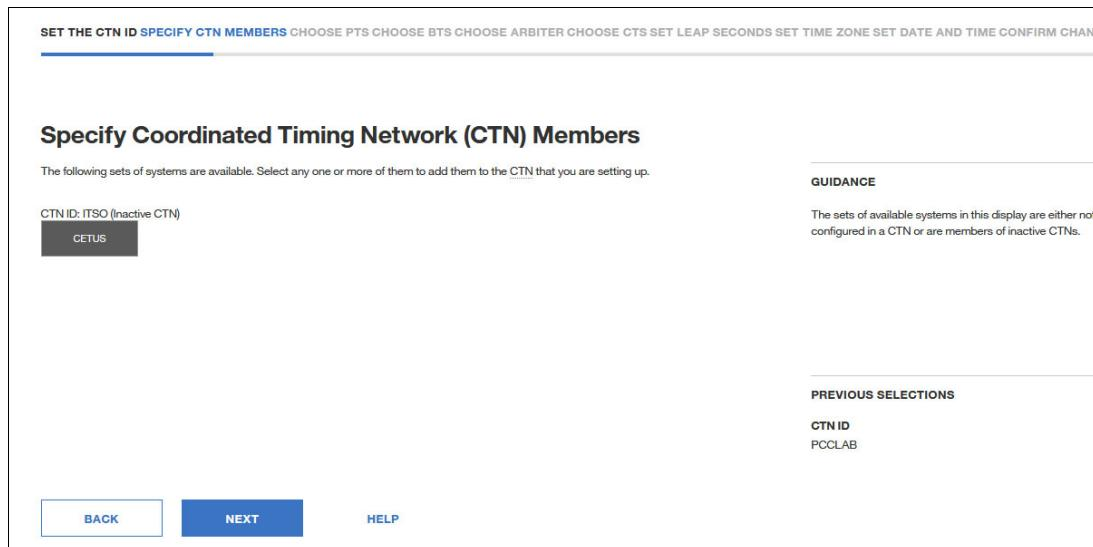

Figure 8-35 Specify Coordinated Timing Network (CTN) members
- The **Specify Coordinated Timing Network (CTN) members** window opens. Select the CPC name (only CPCs not belonging to a CTN are shown). In this example, only one CPC (CETUS) is displayed. Select the CPC and click **NEXT** to continue (Figure 8-35).